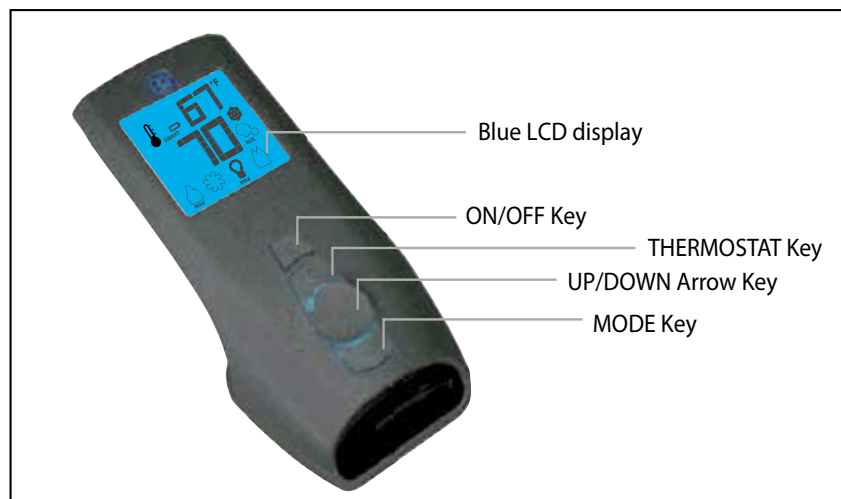
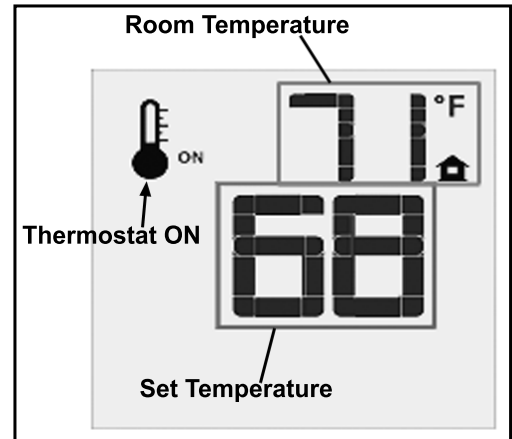
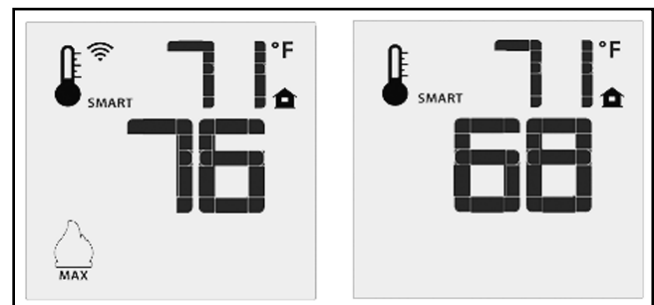
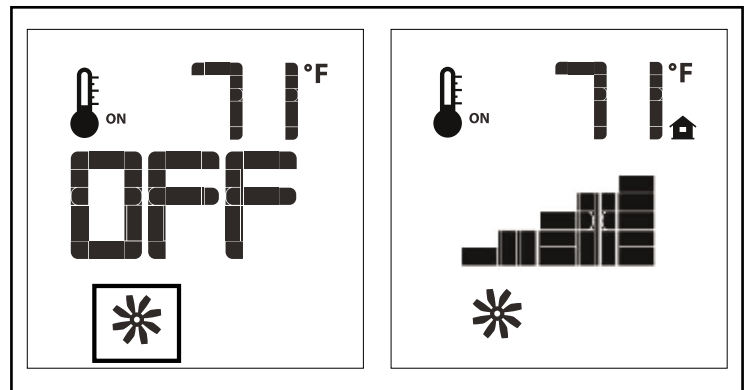

Figure 4: Proflame 2 Transmitter.
Figure 9: Remote Control Displays Set Temperature.
Figure 10: Remote Control's Smart Flame Function.
Figure 13: Fan Control
The Proflame 2 Transmitter is a black remote control with a blue backlit LCD display. It uses a streamline design with a simple button layout and informative LCD readout (Figure 4). The Transmitter is powered by three (3) AAA type batteries. A Mode Key is provided to Index between the features and a Thermostat Key is used to turn on/off or index through Thermostat functions (Figure 4 & 5)
The Remote Control can operate as a room thermostat. The thermostat can be set to a desired temperature to control the comfort level in a room. To activate this function, press the Thermostat Key (see Figure 4). The LCD display on the Transmitter will change to show that the room thermostat is "ON" and the set temperature is now displayed (see Figure 9). To adjust the set temperature, press the Up or Down Arrow Keys until the desired set temperature is displayed on the LCD screen of the Transmitter.
The Smart Thermostat function adjusts the flame height in accordance to the difference between the set point temperature and the actual room temperatures. As the room temperature gets closer to the set point the Smart Function will modulate the flame down. To activate this function, press the Thermostat Key (Figure 4) until the word "SMART" appears to the right of the temperature bulb graphic (Figure 10). To adjust the set temperature, press the Up or Down Arrow Keys until the desired set temperature is displayed on the LCD screen of the Transmitter.
The Westley comes with a convection fan that can be controlled with the Transmitter. The fan speed can be adjusted through six (6) speeds. To control the fan press the Mode key (Figure 4) to index to the fan control icon (Figure 13). Use the UP/DOWN arrow keys to turn on, off, or adjust the fan speed (Figure 13). A single beep from the IFC will confirm the command has been received